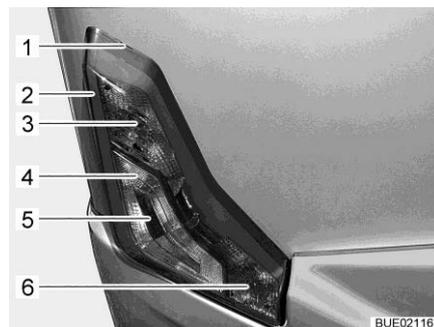

Fig. 293 Rear lights
- Insert flat tool into notch (Fig. 293,1) and carefully lever off the housing.